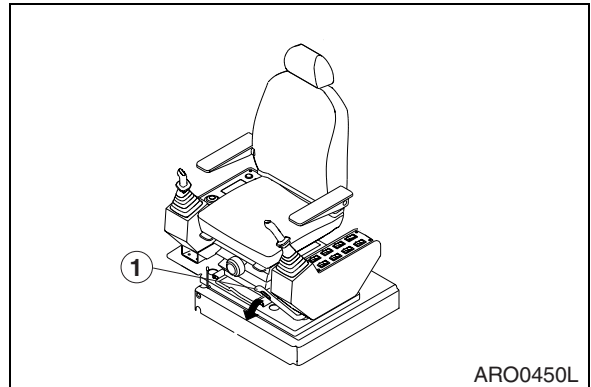

Figure 15
2. Set safety lever (1, Figure 15) on "UNLOCK" position.